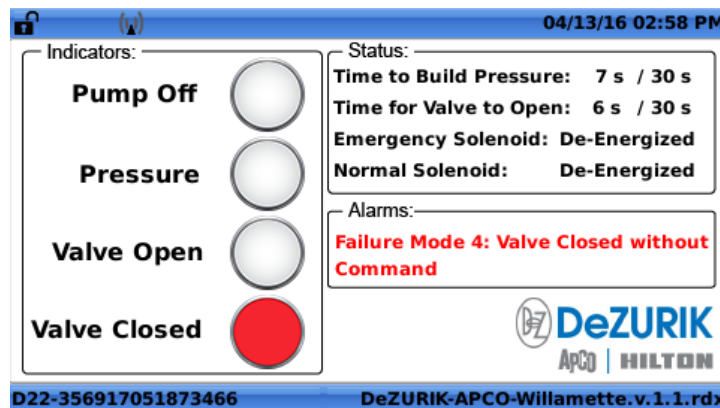

Figure 19A: ECB-CP Controller Home Screen, Failure Mode #4.
5.5A For Solenoid Controlled Valves Model ECB-CP (Figure 19A)